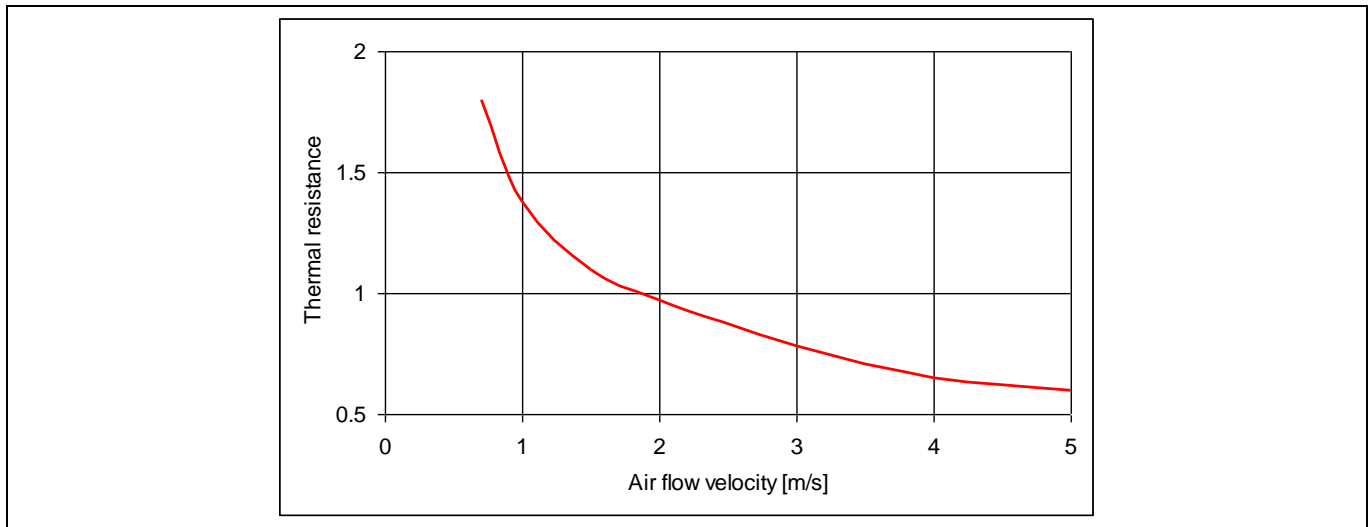

Figure 36 Thermal resistance as a function of the air flow velocity
- **Heat transfer coefficient (aerodynamics):** This coefficient is strongly depending on the air flow velocity as shown in Figure 36. If there is no externally induced flow, one speaks of natural convection. Otherwise it is forced convection. Heat sinks with very small fin spacing do not allow a good air flow. If a fan is used, the fin gap may be lower than for natural convection, as the fan forces the air through the space between the fins.